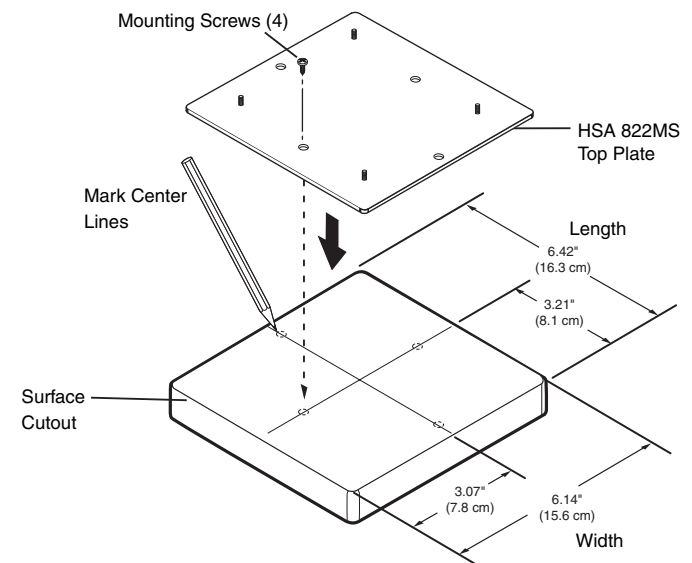

Figure 2-8 — Centering the plate over the surface block
2. Measure and draw centerlines (figure 2-8) at:
3. Place the top plate on top of the surface block, screw side up. Align the long edge of the plate with the long edge of the surface block. Position the plate so that the centerlines that you drew in step 2 cut through the center of each of the four screw holes in the plate (figure 2-8).